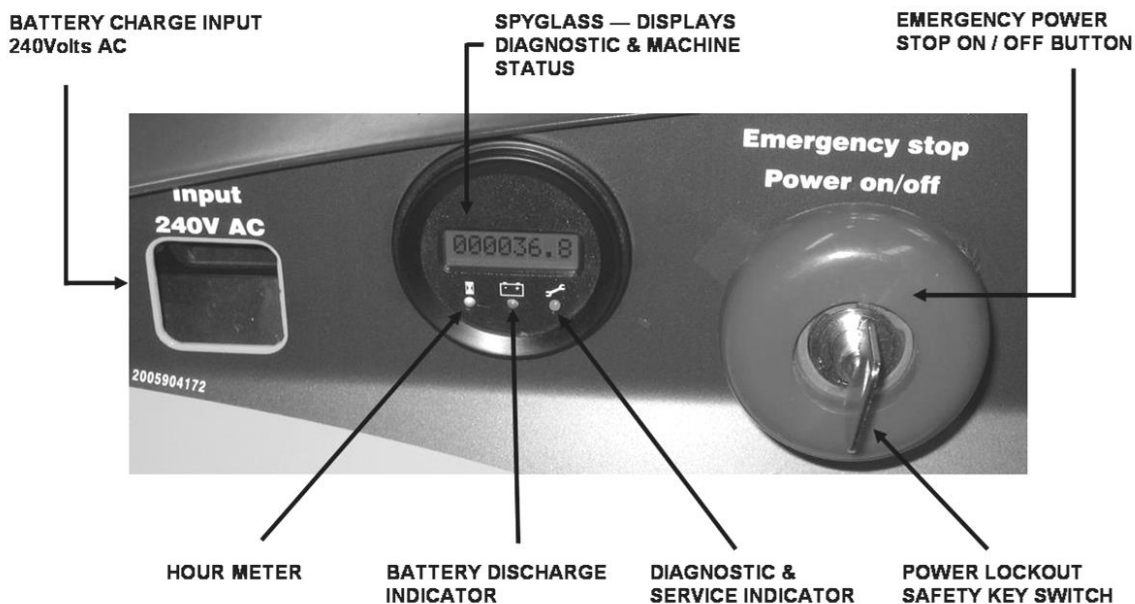

Figure 4: LAYOUT OF DASH PANEL
5.3. MULTI FUNCTION SPY – GLASS GAUGE (Refer to Figure 4)
All BOA® models are fitted with a multi-function meter on the dash panel. This meter has three LED indicators for operating hours, battery discharge and diagnostic/ service. (Refer to Figure 4 below)